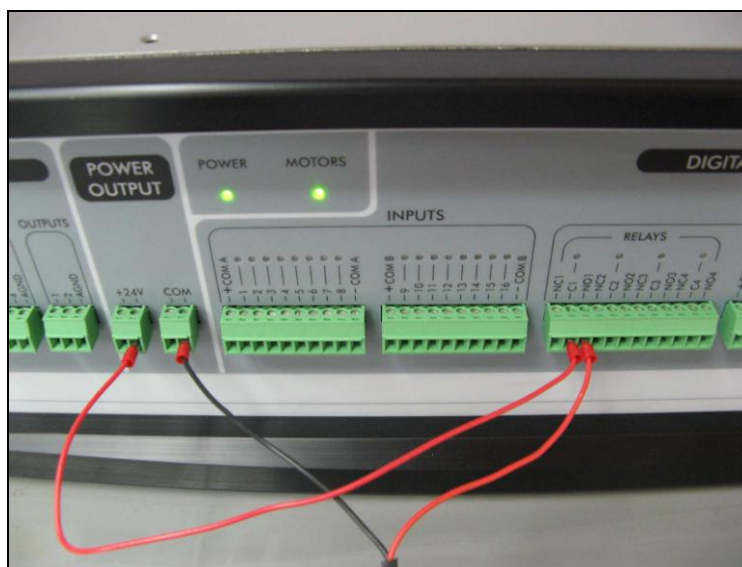

Figure 3-8: Example of gripper connection
4. Refer to Figure 3-8.
- Connect the red wire to the normally open (NO) terminal of any unused relay output.
5. Connect 24VDC to the common (C) terminal of the **same** relay output, as shown in Figure 3-8.